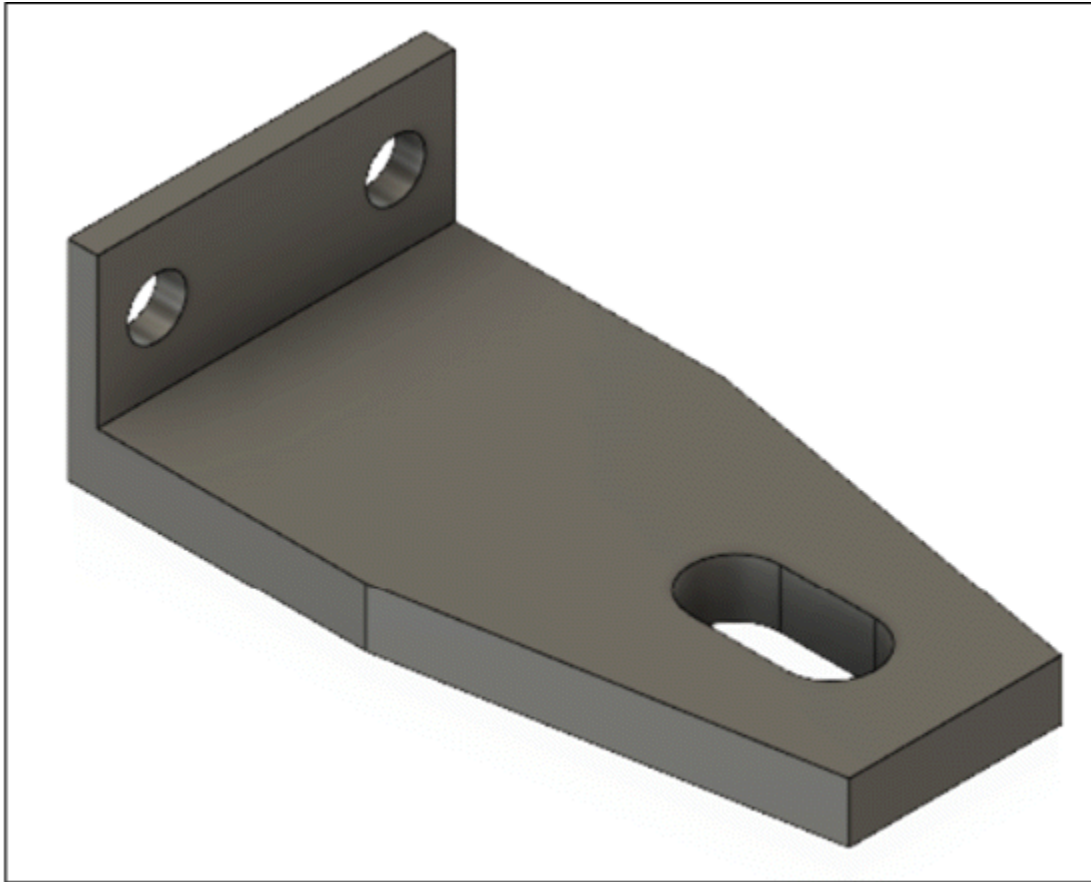

Figure-19. Extrude feature created
- Click **OK** button from **EXTRUDE** dialog box to finish this process; refer to Figure-19.